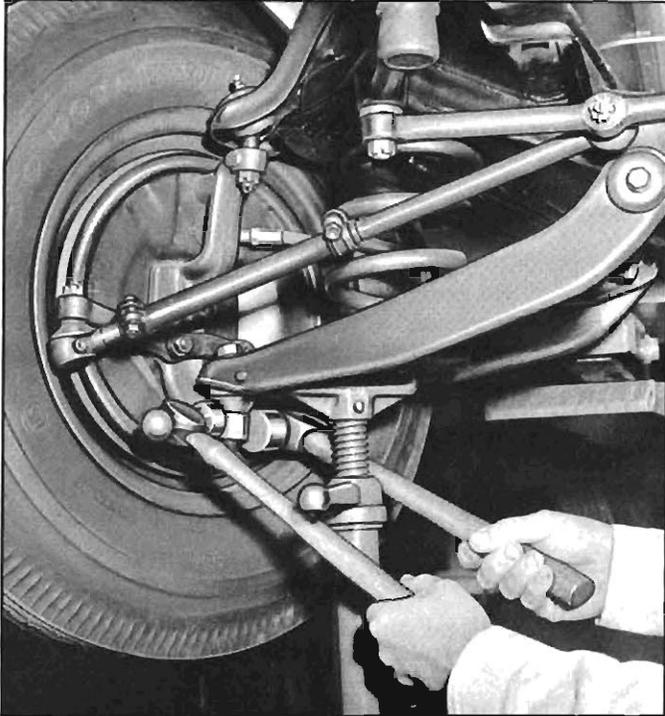

Fig. 3-3—Loosening Lower Ball Stud
Steering Knuckle (fig. 3-3)
2. Remove lower ball stud cotter pin and nut. Strike steering knuckle boss backing up with another hammer (fig. 3-3).